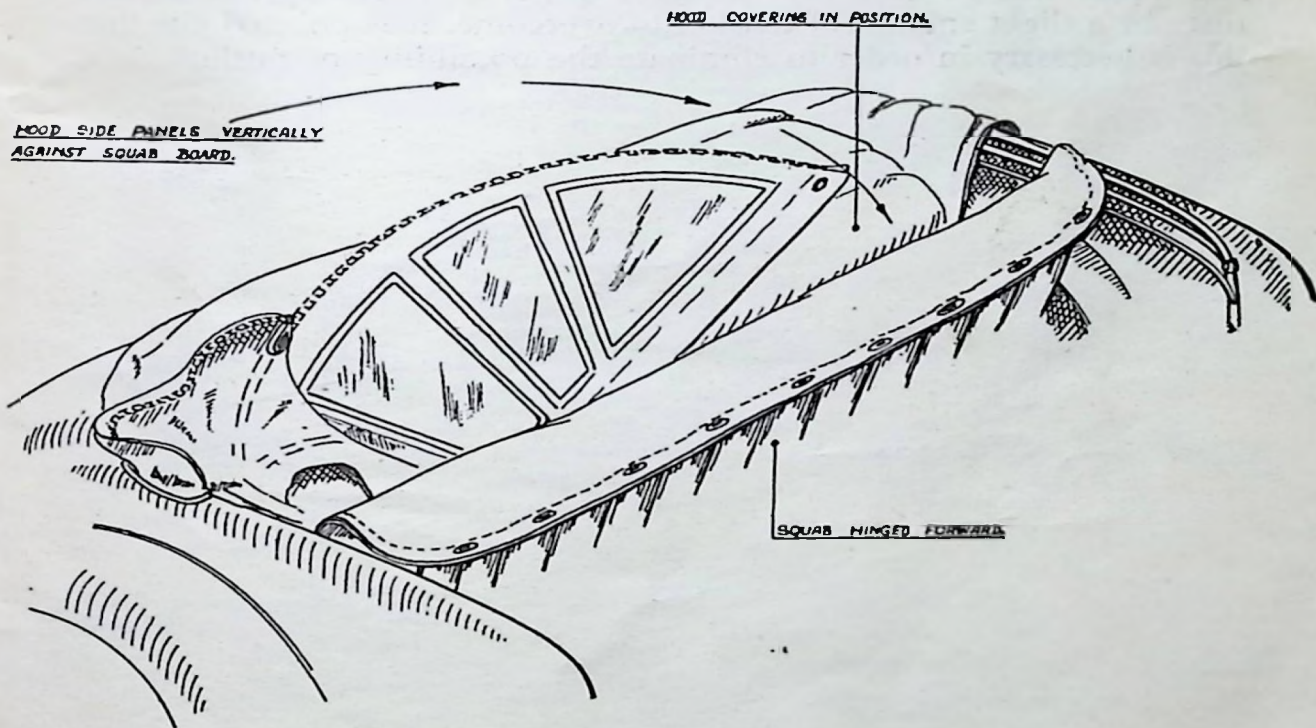

Fig. 2.
8. Place offside curtain in recess with outside of curtain facing rear squab board. Fold hood material of front canopy over the top of the side curtains together with side panels of hood (Fig. 2).